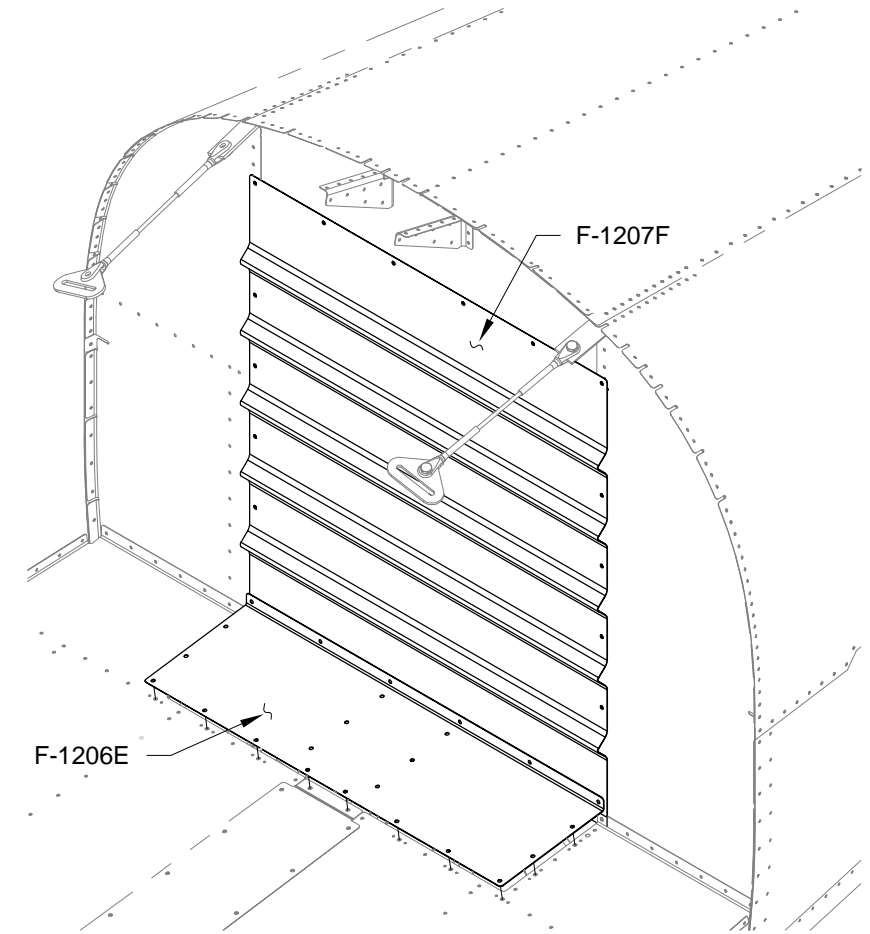

FIGURE 4: REMOVE ACCESS COVERS
Step 4: Remove the F-1206E Baggage Cover and F-1207F Baggage Bulkhead Corrugation. See Figure 4.